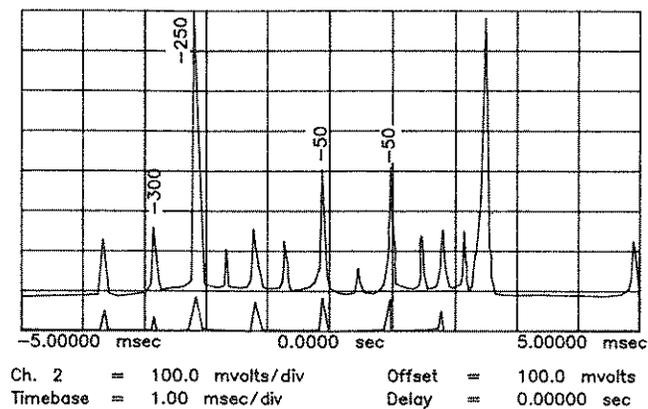

Figure 5-15c. Frequency Response of Notch Filters, 965 MHz Setting.
13. Set the HP 8657B frequency to 965 MHz and observe the oscilloscope Chan 2 display. The beat note levels should resemble those shown for channel 2 in Figure 5-15c. (the 50 MHz beatnotes are shown with nonadjusted levels.) Adjust A4L39 (50 MHz Notch Filter) until the 50 MHz beat notes are at their minimum amplitude. Adjust A4C75 to maximize the 250 MHz signal while keeping the 300 MHz signal at minimum.